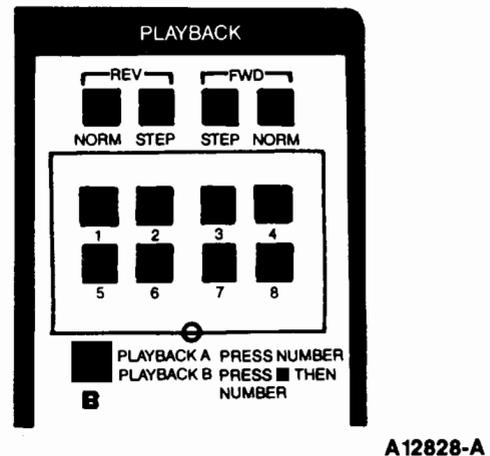

Figure 5.
4. As a final step, install the white overlay card around the eight playback buttons. This card will be used later to keep track of the signal names of the recorded channels. Refer to Figure 5.